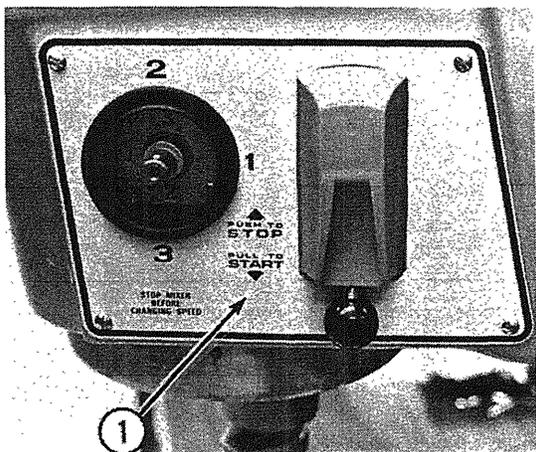

Fig. 3-9
- H. Remove four screws from switch plate (1, Fig. 3-9) and remove plate.
- J. Install switch plate (Fig. 3-9).